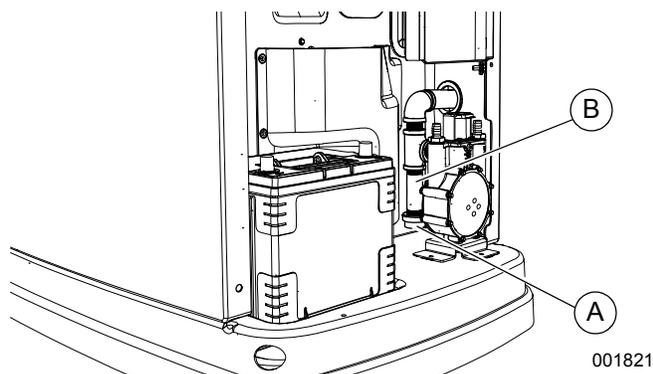

Figure 4-7. Cleaning the Sediment Trap
5. See Figure 4-7. Unscrew and remove the cap (A).